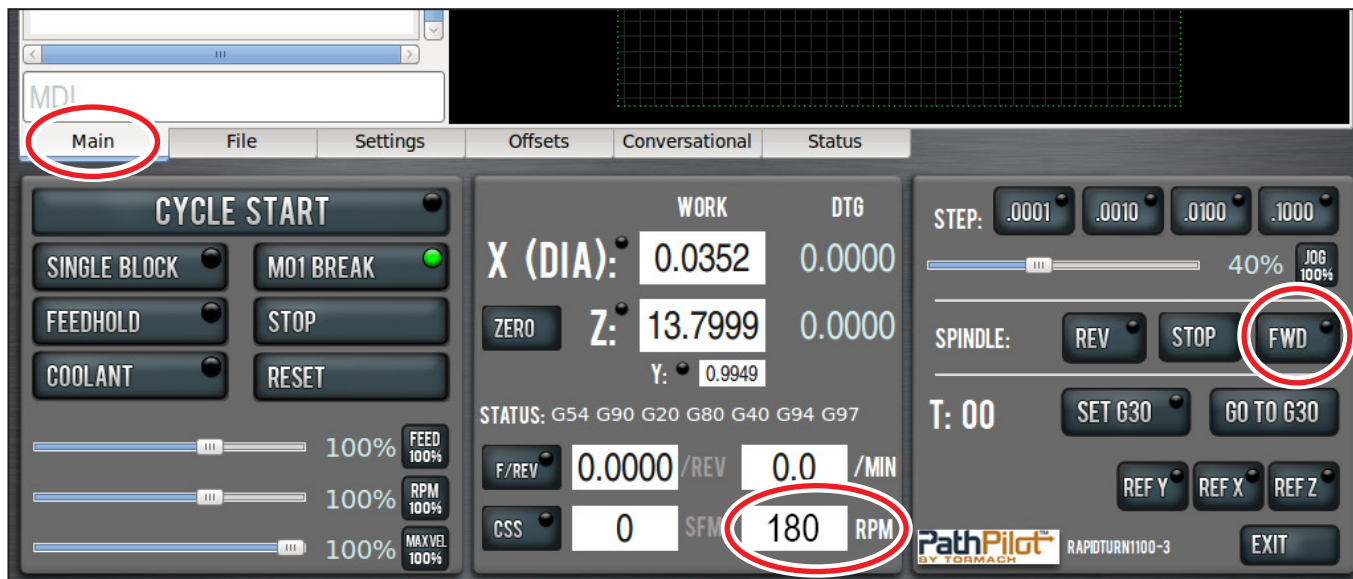

Figure 3.7
5. On *Main* screen, set chuck speed by entering 180 in *RPM* digital readout (DRO) as shown in **Figure 3.7**.
6. Click Spindle *FWD* to start spindle rotation (see **Figure 3.7**).